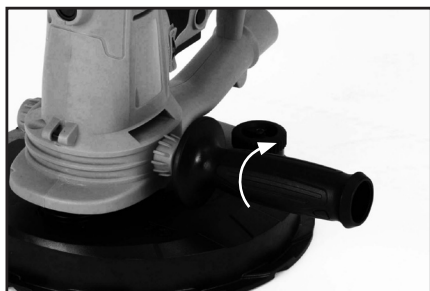

Fig. 1
- Attach the Side Assist Handle to the machine by screwing it into the preferred boss on the left hand or right hand side of the machine. **(Fig. 1)**